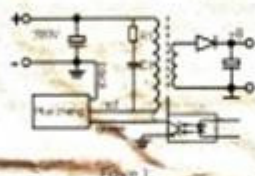

Figure 1: Usage of parallel switch power supply
7. If disturbances and noises occur after installation, please remove other components that are connected to pole C of the original switching tube and attach the absorption circuit that is composed of resistance R1 (33Ω-56Ω/3W-5W) and capacitance C1 (470P-1500P/1KV-2KV) to the switch transformer's two primary terminals. (Please refer to figure 1.) For whistling sounds occurring to series power supply, please dismantle the capacitance parallelized with the original fly-wheel diode; if the whistling sounds continue, please dismantle all the capacitances that are connected to the switching tube's pole C.